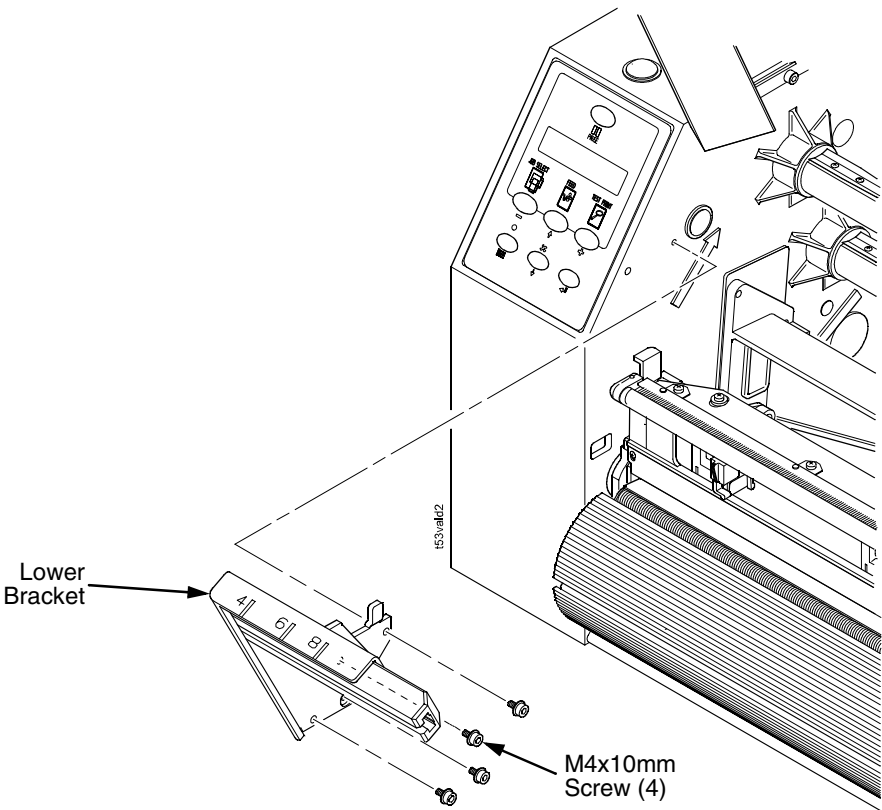

Figure 9. Installing the Lower Bracket
- 1. Using the four M4x10mm screws, install the lower bracket as shown in Figure 9.